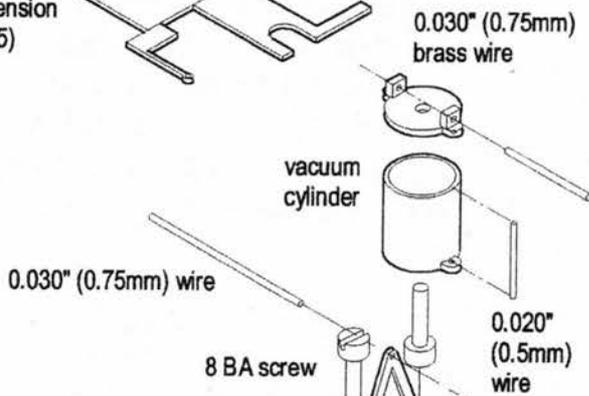

Fig 9
Referring to Fig 9 attach a moulded brake shoe to each of the brake shoe hangers. The shoes align with the tread of the wheels. Take the brake beams (10 & 11) twist the pull rod through 90 degrees then fit them into the middle hole in the brake shoe. The longer of the two pull beams attaches to the upper hole in bracket (7) as in Fig 11.
Solder one of the 8 BA screws into the recessed hole in part 5 as in Fig 9. Assemble the vacuum cylinder and screw it onto the bolt until it is 3mm from the base. Add length of 0.030" (0.75 mm) wire through the lugs on the cylinder and short pieces of 0.020" (0.5mm) wire to either side.